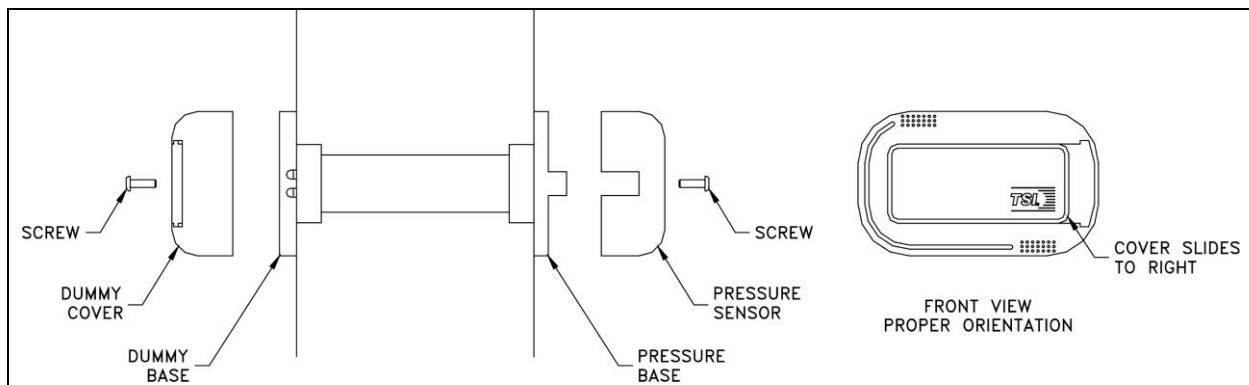

Figure 4: Pressure Sensor Mounting
10. Install and screw the pressure sensor and dummy cover onto the bases. Slide covers to the left to hide the sensor. Finished installation should look as shown in Figure 4.